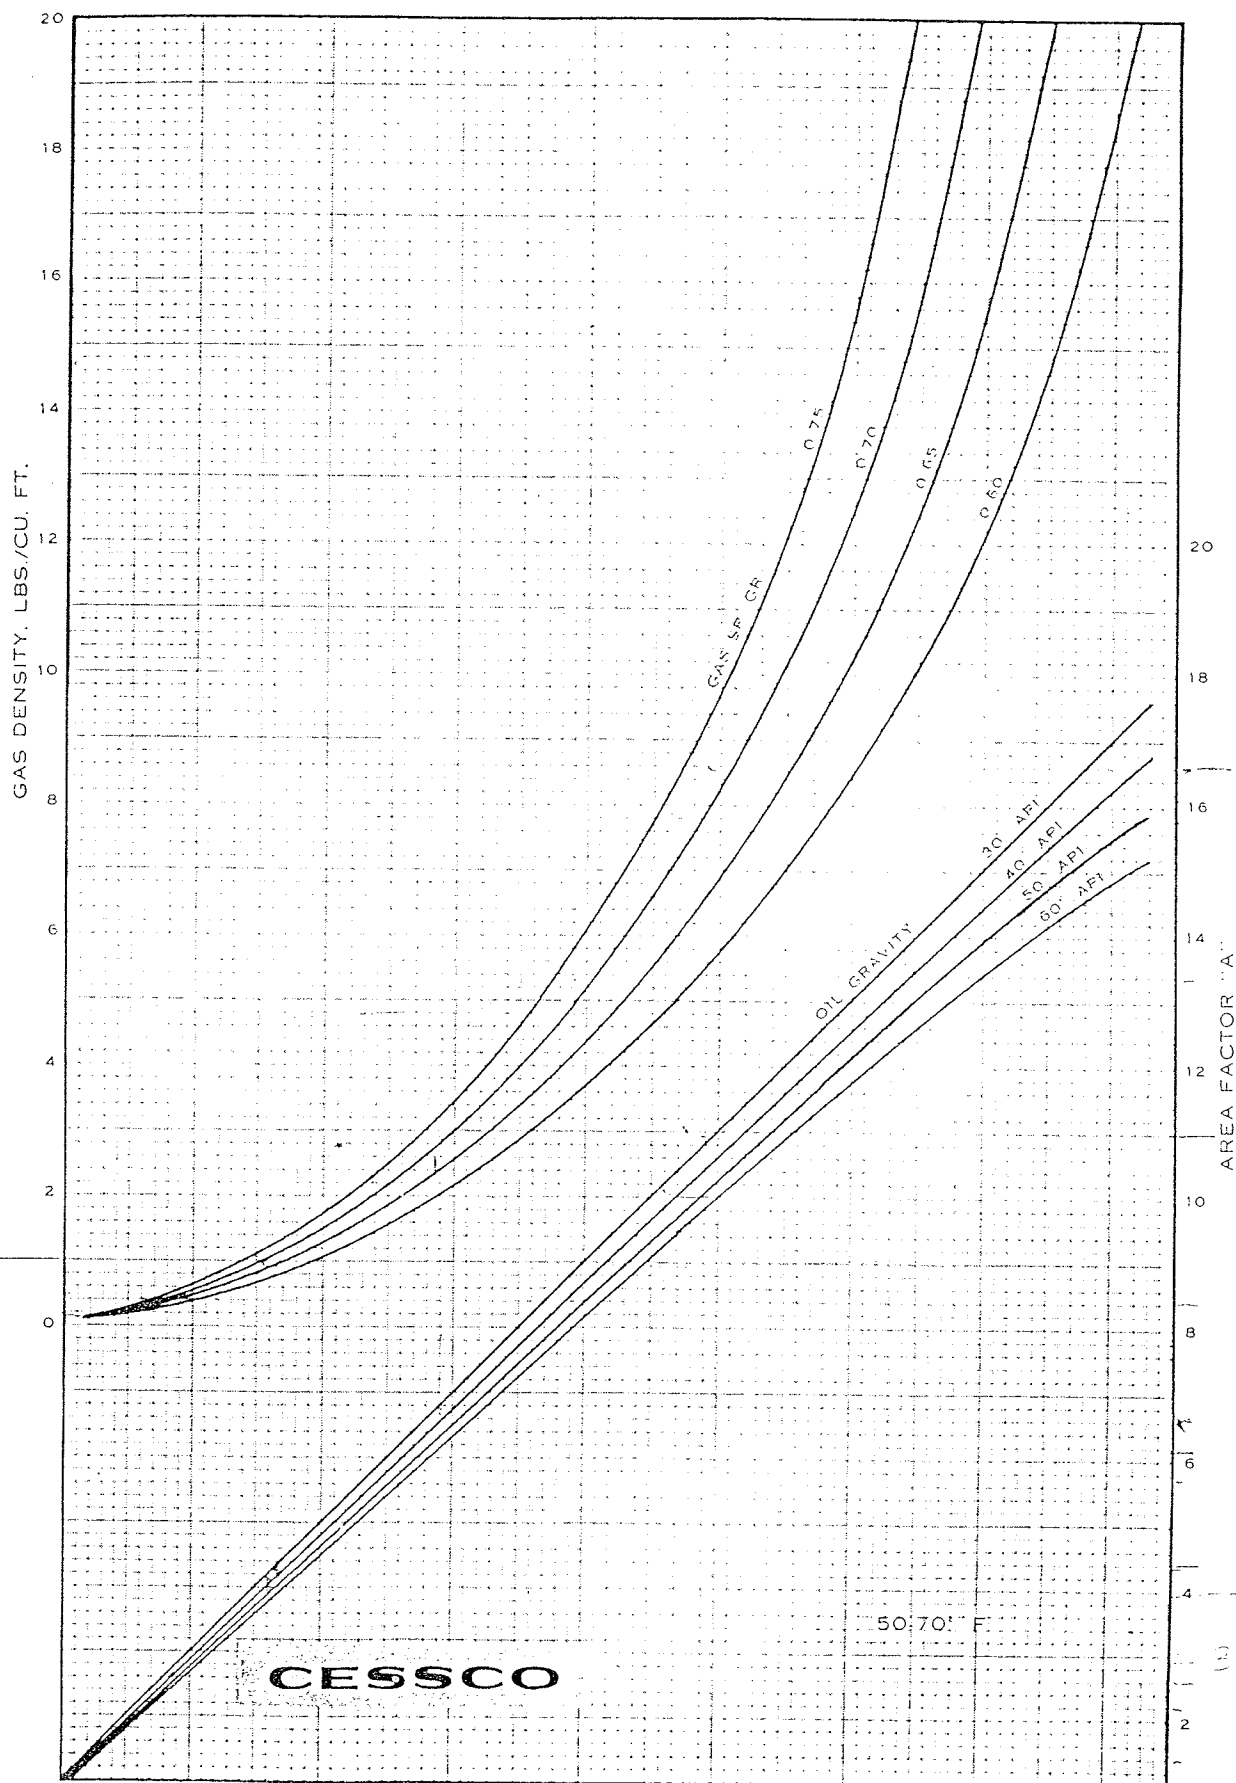

FIG. 4 SEPARATOR AREA FACTOR "A", 50-70° F GAS TEMPERATURE
2. determine Area Factor "A", from Fig. 4, 5, or 6.